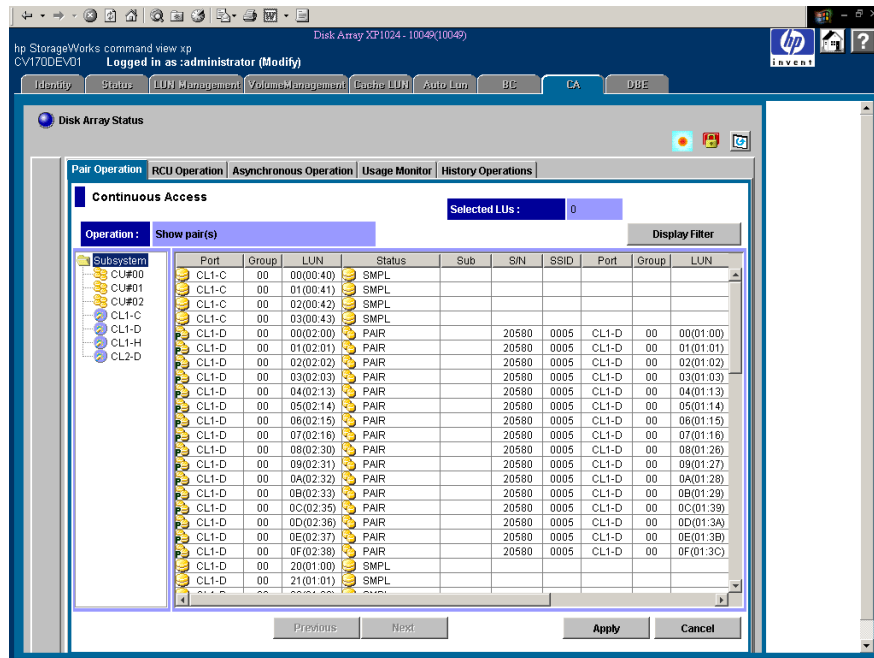

Figure 255: CA main screen
5. Click the **CA** tab to start CA. The CA main screen is displayed (see Figure 255).